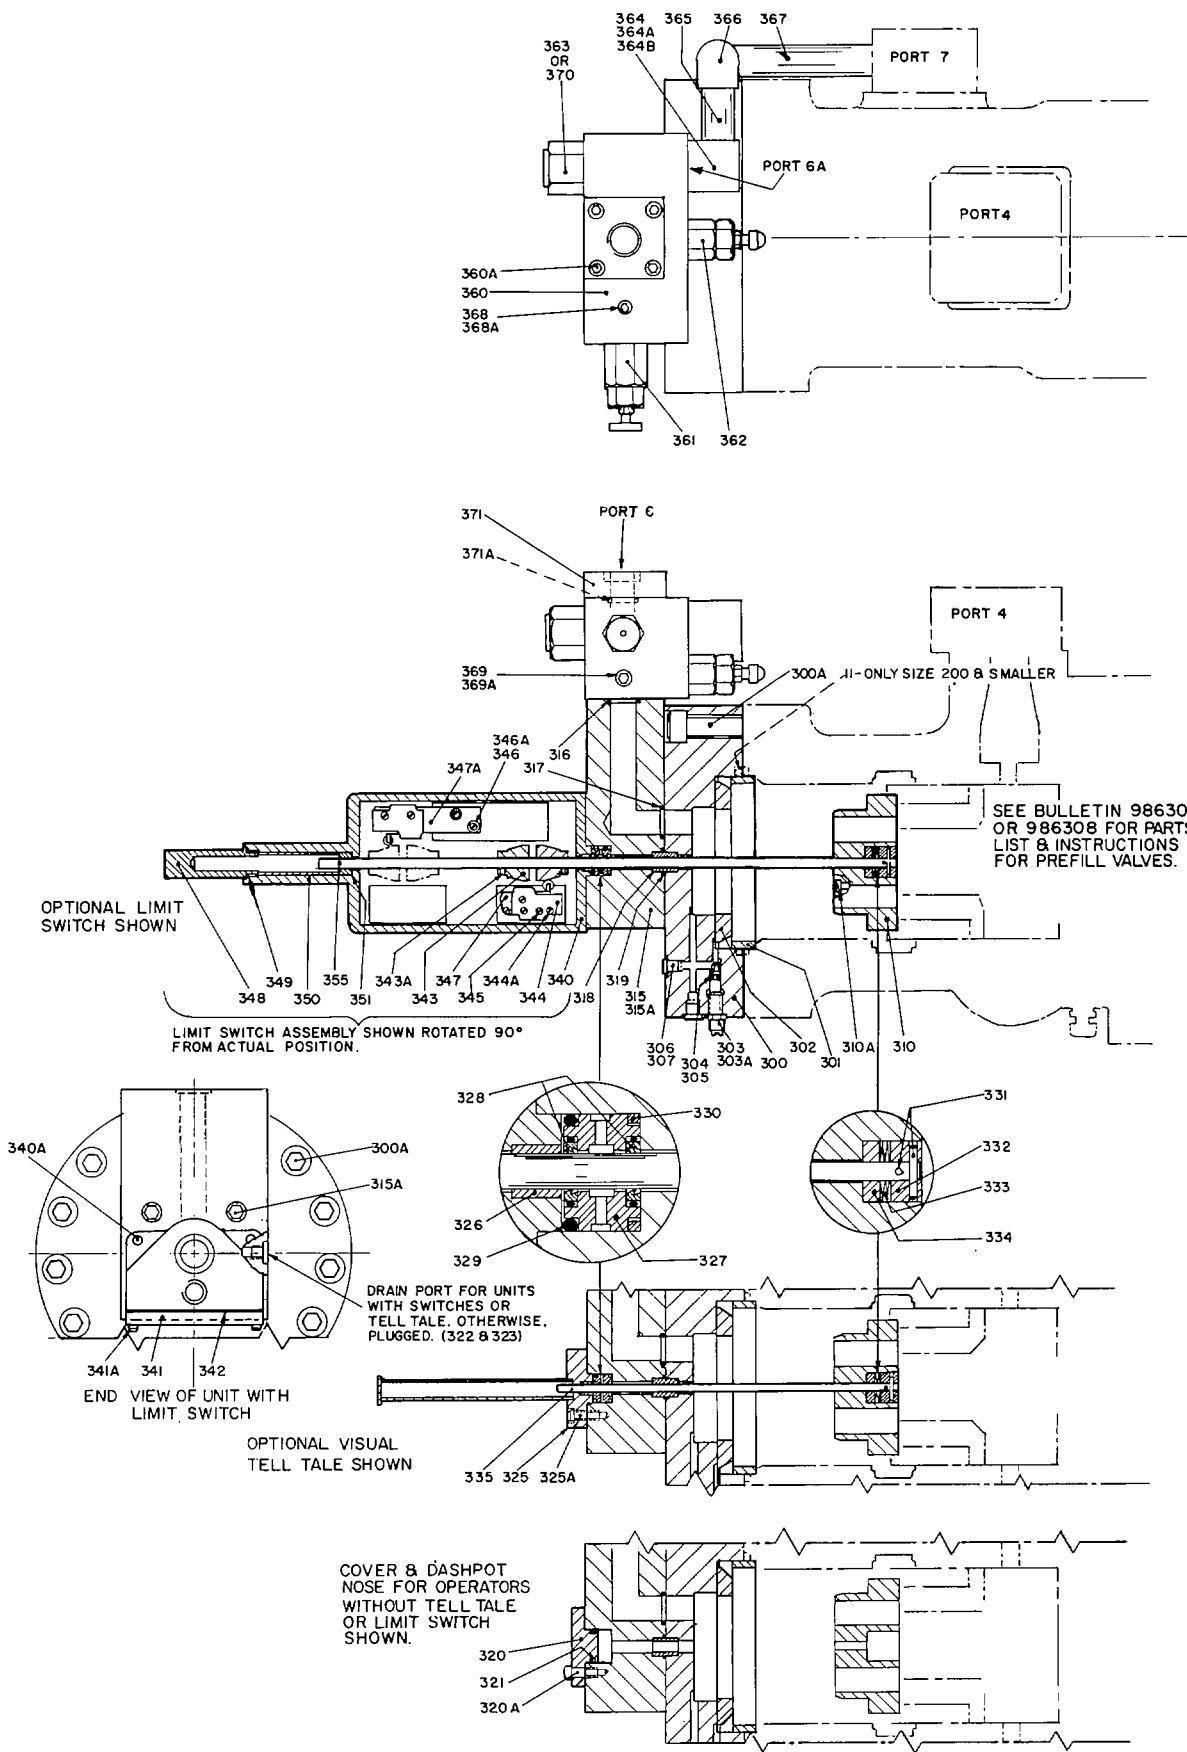

Figure 2. Parts Drawing. Modular Resistance Type Operator. DS-986331. (516666)
Refer to Figure 2. The principle parts of this operator are a dashpot nose (310) on the control piston, a floating dashpot mechanism (302) in the rear head (300), an adapter block (315) and the resistance operator module block (360) containing the adjustable resistance valve (361), the adjustable needle check valve (362), and an optional check valve (363). Optional limit switch assembly (340) or visual tell tale assembly (325) may also be mounted on the adapter block (315).
Refer to Figure 2. It will be advantageous to tag similar parts (particularly screws, plugs and o'rings) during disassembly to be certain they don't become confused with similar parts and to ensure they will be returned to original location.
Avoid allowing cylinder prefill plunger (18) movement beyond normal closed position or piston rings will expand in Port 3 relief and lock plunger in body. Refer to Figure 2. Depending upon what part or parts are to be inspected, it may not be necessary to completely take apart all assemblies or disconnect piping.